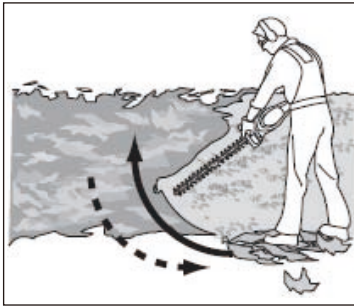

Fig 8
5. First cut both sides from the bottom cutting upwards to the top. This will prevent any of the trimmings falling into the path of the area still to be cut (Fig. 8).